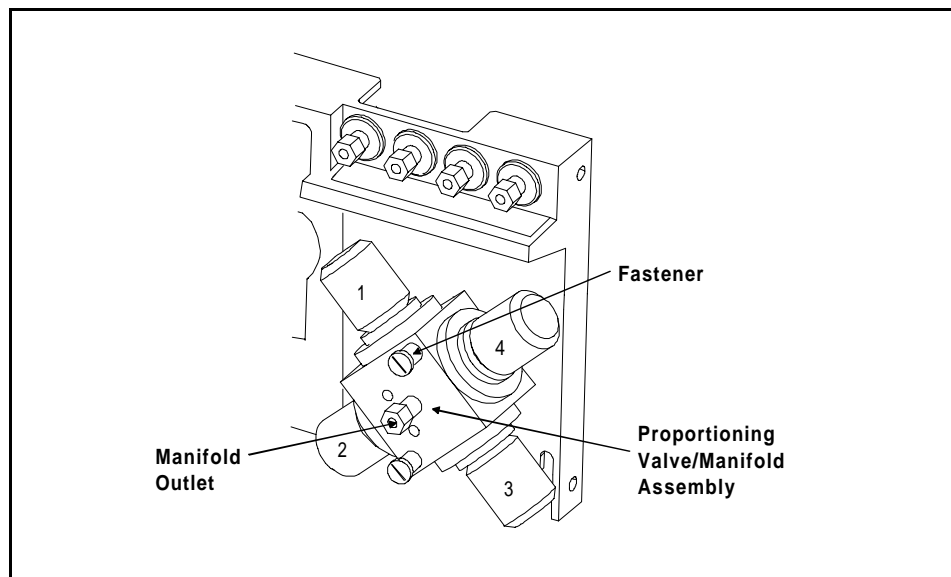

Figure 5-7. Location of Proportioning Valve Assembly
4. Disconnect the liquid line from the manifold outlet (see Figure 5-7).
5. Loosen the captive fasteners securing the proportioning valve/manifold assembly to the bulkhead (see Figure 5-7). Pull the valve/manifold assembly forward and disconnect the eluent lines exiting the vacuum chamber. Remove the valve/manifold assembly completely from the bulkhead.
8. Align the new assembly as shown in Figure 5-7 and mount it to the bulkhead. Tighten the fasteners.